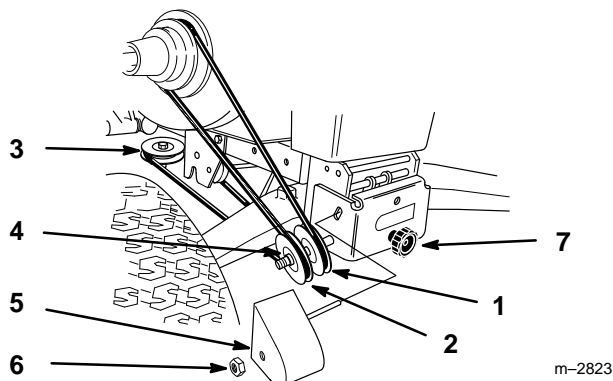

Figure 7
15. Route belt around V and flat pulleys and loop over center mower spindle, top pulley.(Fig. 7).
16. Check that spacer is on shaft and install belt cover with rod in hole. Secure with locknut (Fig. 7).
17. Turn knob counterclockwise to tighten belt (Fig. 7). Tighten until there is 1" (26 mm) belt movement between engine clutch and idler pulley when slight pressure is applied to the belt.